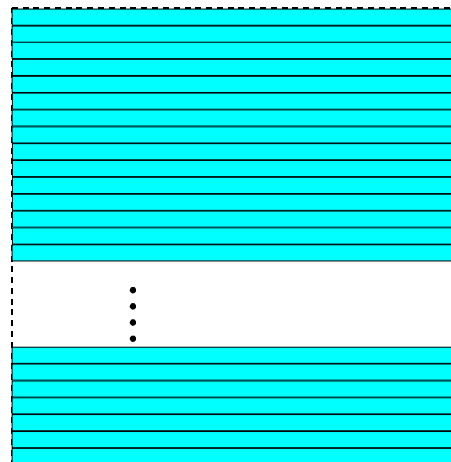

Fig. 110: Decimation Disabled
- 1: the complete frame will be transmitted out of the camera (no vertical decimation is realized); see Figure 110. This is valid for mono and color cameras.